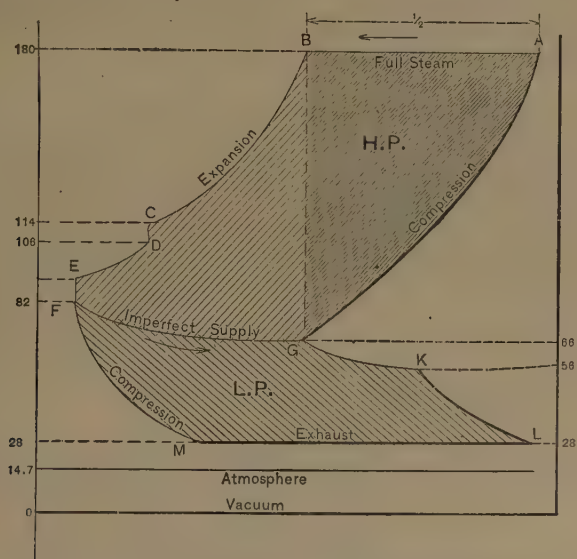

Fig. 324. Theoretical Expansion Diagram.
A. Supposing that the pistons are attached to the same crosshead and the conditions as laid down for the receiver engine in preceding paragraphs, we have a diagram somewhat like this (Fig. 324):